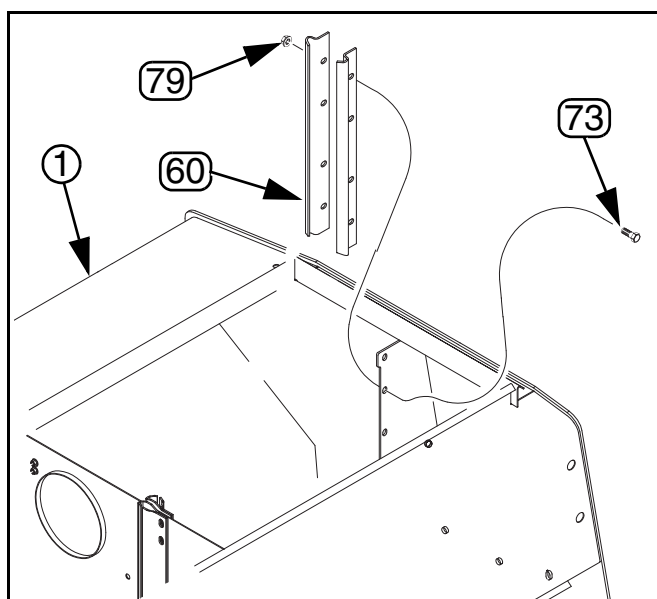

Figure 17
**Refer to Figure 17**
6. Fasten the two end mounted divider clips (60) to each end of the main seed box (1). Use 5/16-18 x 3/4 bolts (73) and 5/16-18 hex nuts (79). Leave bolts loose.